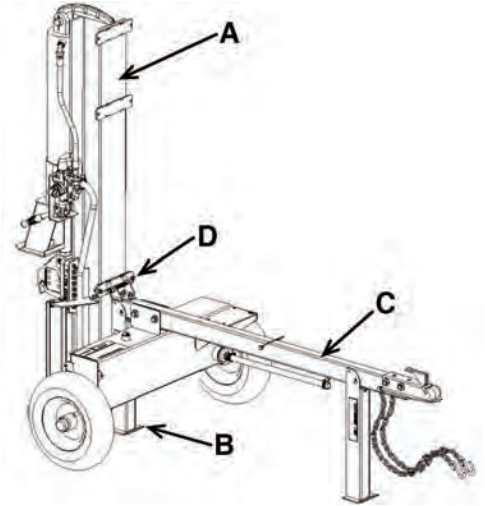
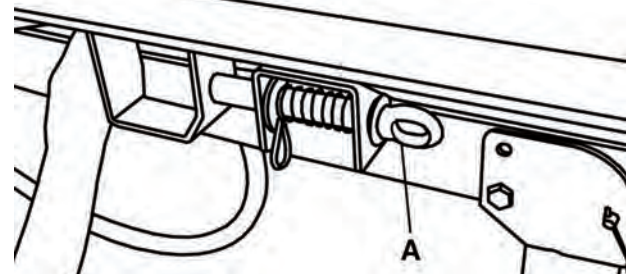
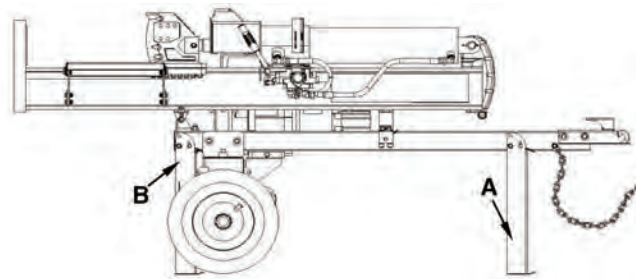

Figure 5
Figure 6
Figure 18
- 1) Remove beam (A) Fig.5 from shipping pallet. Get someone to help you or use lifting equipment.
- 2) Tip beam up onto endplate (B) as shown in Fig.5. Make sure to obtain a helper to hold the top of the beam during the remainder of this step. The beam is very heavy and dangerous if it tips over.
- 3) Connect beam to the towbar (C) using the beam fixing shaft and cotter pin (D). Insert cotter pin through hole in beam fixing shaft and bend it so it can't come off.
- 4) Pivot and lower beam (A) Fig.5 to its horizontal position. Fix beam into position using the horizontal beam spring lock bolt (A) Fig.6.
- 4) Lock both outrigger legs (A) Fig.18 in the DOWN position before operating.
- 1) Make sure beam is locked securely in the horizontal position by checking the horizontal lock (A) Fig.6. The rear and front outrigger legs (A & B) Fig.18 must be locked in horizontal splitting position.
- 2) Pull out horizontal lock catch pin (A) Fig.6, lift beam until it rotates into vertical position.